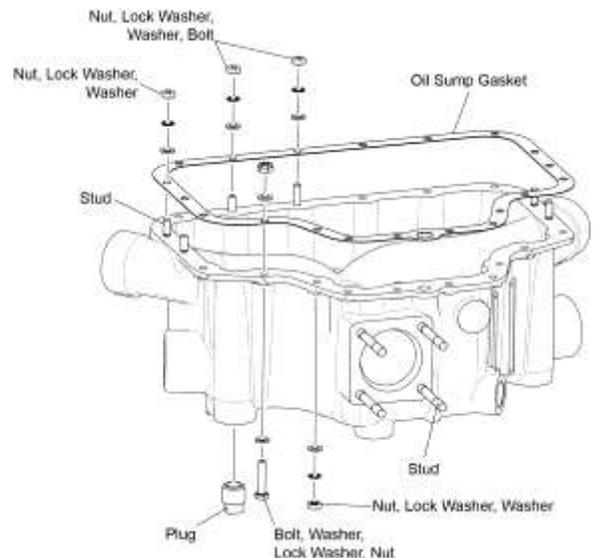

Figure 10
- C. Remove the nuts, lock washers, and washers from the studs (Figure 10) that attach the oil sump to the crankcase. Discard the lock washers.
- E. While one person holds the oil sump, remove the remaining two bolts, along with four washers, and two lock washers from the locations shown in Figure 10 on the oil sump.
- E. Install a new oil sump gasket in either the oil sump flange (Figures 10 and 13) or on the mating flange of the crankcase.
NOTICE: If studs are not already installed on the oil sump, install new studs in their corresponding location per Figure 10.
- H. Install the bolts, in the same locations from which they were removed, each with a nut, two washers and a new lock washer at the location shown in Figure 10. Torque the nuts to 96 in.-lb. (11 Nm).